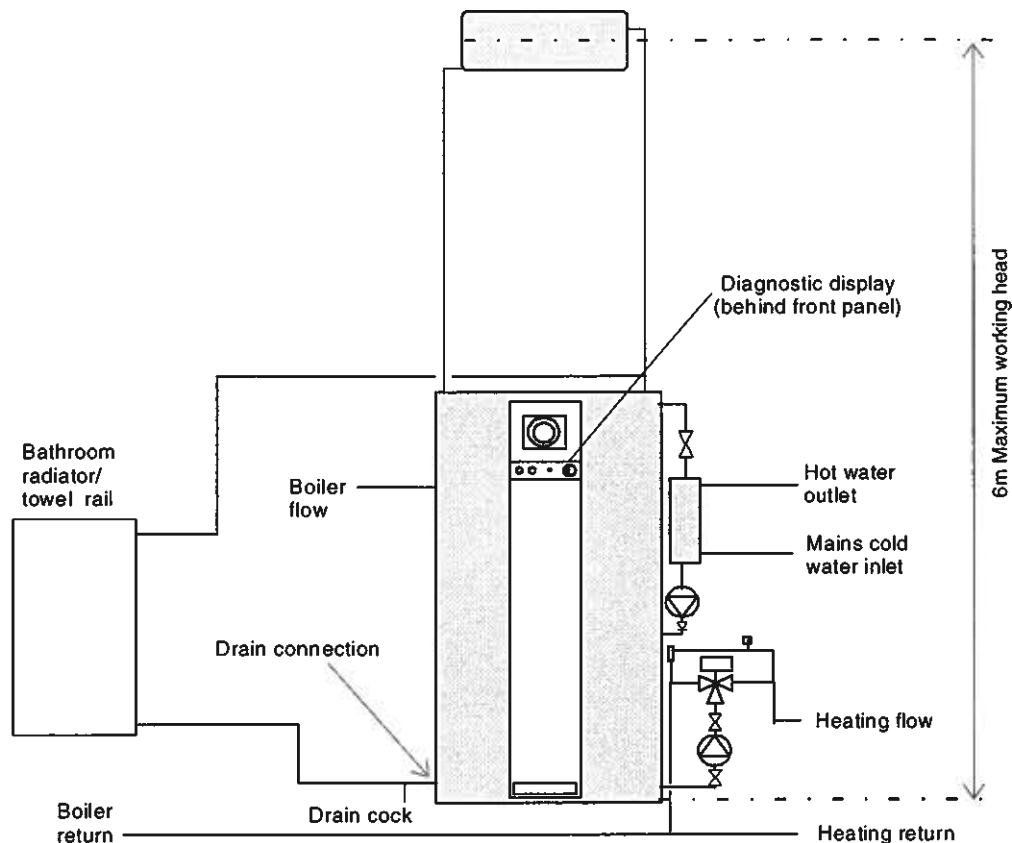

Figure 2.5 Arrangement for Connecting Bathroom Radiator or towel Rail Heated by Gravity Circulation
1. If heating of a bathroom radiator or towel rail is required in summer, then it can be piped as a gravity circuit shown schematically in Figure 2.5. The flow pipe to the radiator can be teed into the safety open vent pipe and the return pipe from the radiator can be connected to the store drain connection and the drain moved to the return pipe.